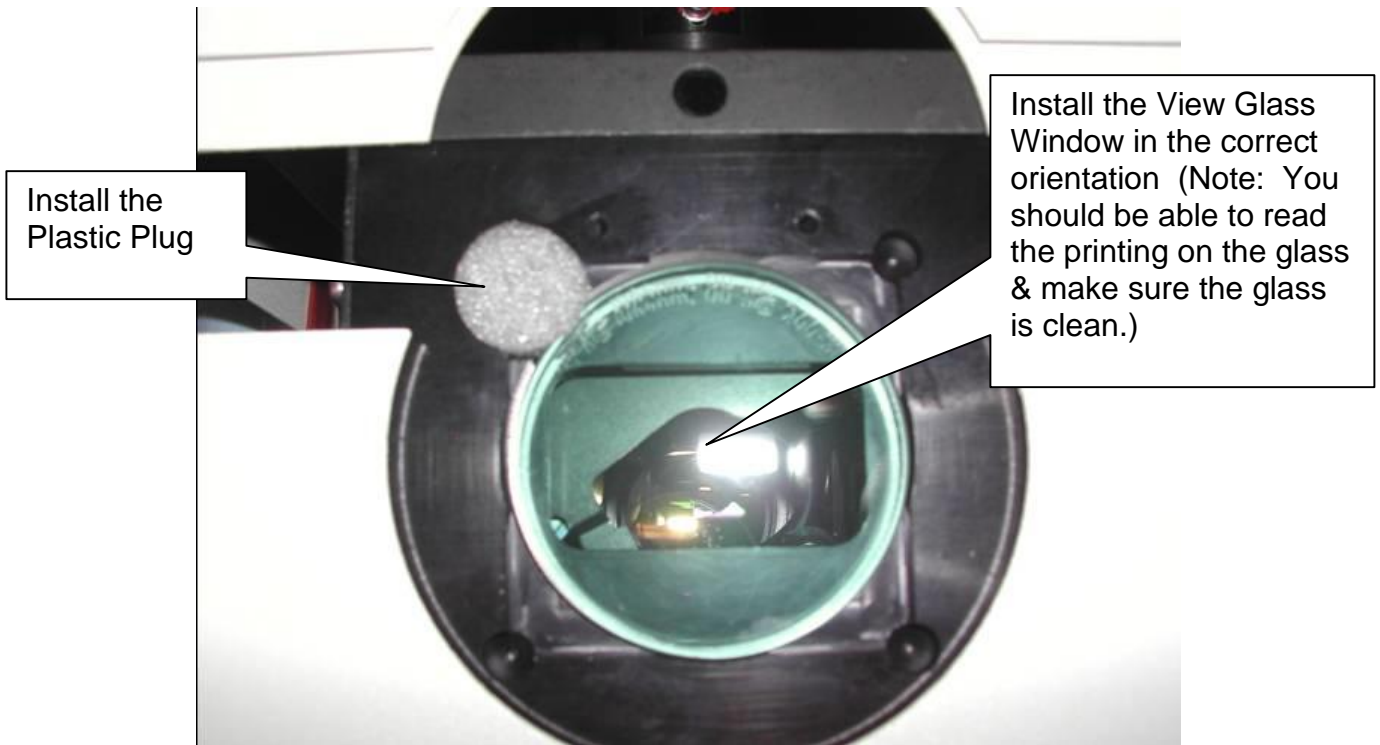

Figure 11
- J Install the plastic plug & the View Glass Window. **Figure 11**